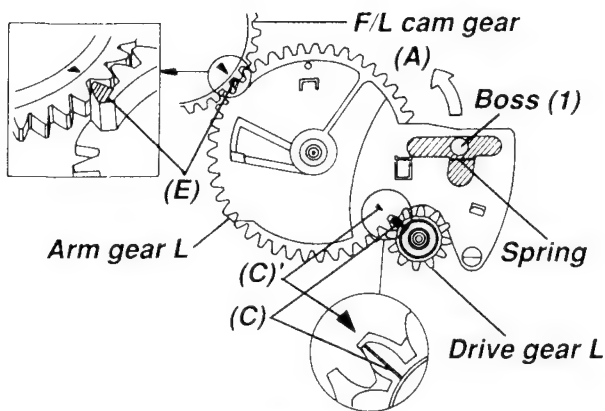

Fig. 4-1-9
- Align the (C) part of the drive gear L and the ▼ mark of the arm gear L shown by (C)'.
- Align the ▼ mark of the F/L cam gear and the tip of the upper gear of the arm gear L shown by (E).
- Make sure that the boss (1) and the spring are positioned as shown in Fig. 4-1-9.